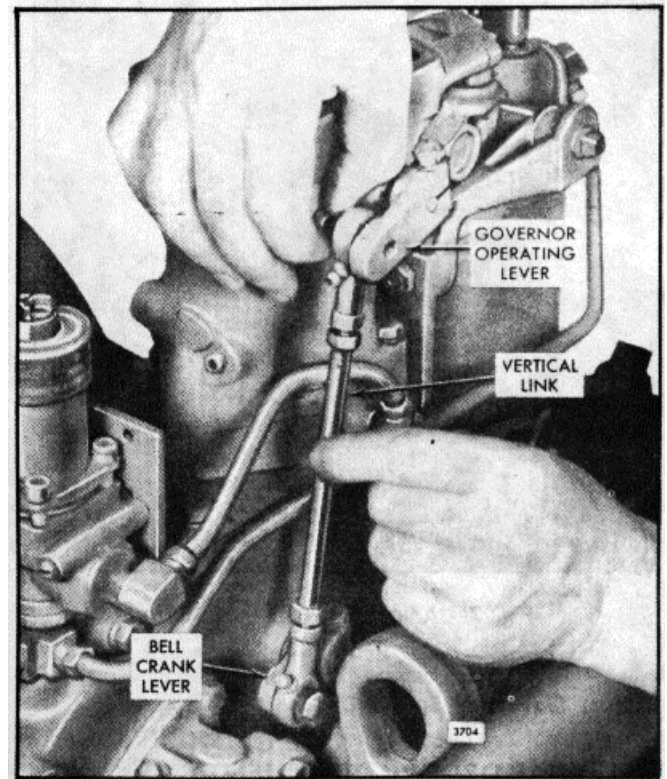

Fig. 6. - Adjusting Vertical Link
16. Adjust the length of the vertical link so that the bolt holes of the levers and the centers of the rod end bearings are lined up (Fig. 6).